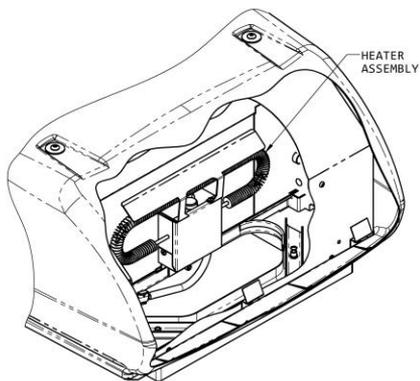
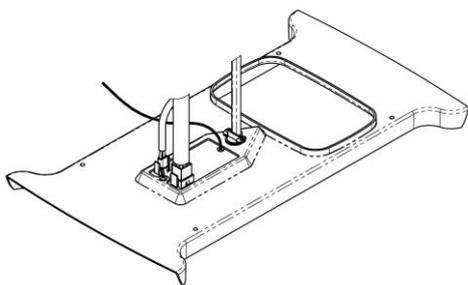

FIGURE 7
FIGURE 9
If the heater option is being installed, position the heater assembly in the air conditioner return air opening as shown in Figure 7. The heater bracket must be installed over the metal basepan extrusion and positioned between the base pan and the plastic drain pan. (See Figure 9). Tighten set screw to secure the assembly to prevent movement. Replace the selector switch control knob on the ceiling assembly with the knob provided with the optional heater.
- C. Raise the ceiling assembly chute and insert the supply wiring through the cable clamp and into the wiring box so that 4-6" of supply conductor is inside the box. Secure the cable clamp over the supply wire sheath so that no movement is possible (See Figure 9).
- F. Plug the air conditioner electrical conduit into the 11 position receptacle as shown in Figure 9.
- G. If the optional heater accessory is being installed, remove and discard the cover from the 2 position receptacle. Plug the heater cord into the receptacle as shown in Figure 9.